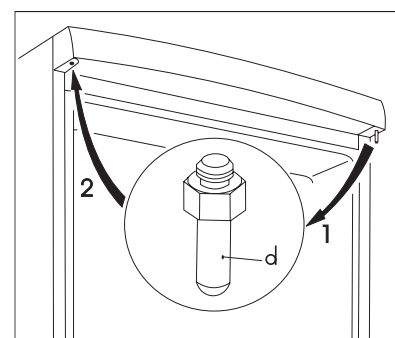

fig. 1.
- Unscrew the top door hinge pin (d) of the refrigerator then screw it back on the other side. (fig. 1)